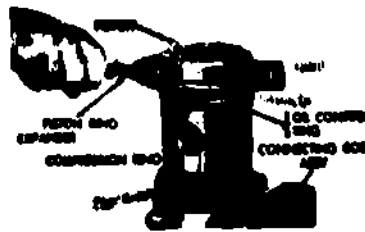

Fig 5-31. Removing and installing piston rings,
**Note:** The oil ring is installed prior to the compression rings. The oil control ring is installed by hand and the ring expander tool is used to install compression rings. Figures 5-31 and 5-32 illustrate the removal and installation.